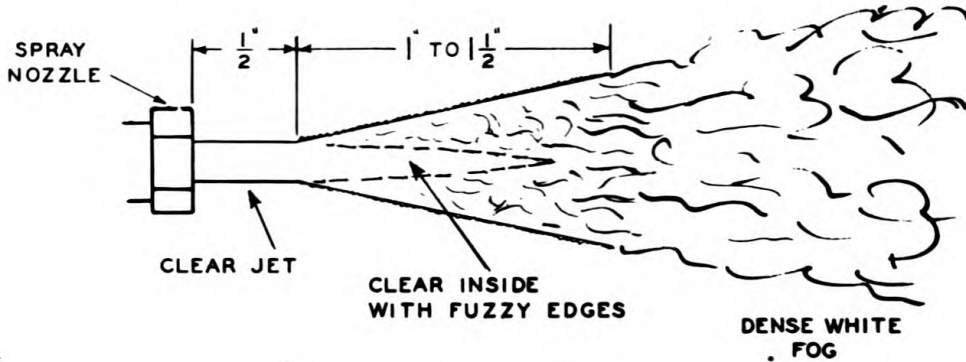

Fig 18. "Good smoke."
f. Preliminary operation. (1) Check of smoke and carburetor. After taking steps described in subparagraphs a, b, and c above, operate generator 10 or 15 minutes to check quality of smoke and carburetor performance.
(2) Smoke. The jet of smoke issuing from each of the four orifices of smoke discharge manifold should resemble the jet of "good smoke" diagrammed in figure 18. Smoke for approximately 1/2 inch from orifice should be transparent. For next 1 or 1-1/2 inches, it should be clear in middle and fuzzy at edges. From there on, it should be dense white fog. "Good smoke" indicates generator is functioning correctly. If wet smoke (smoke having a yellowish tinge) or dry smoke appears, chances are the thermostatic fuel valve (fig 15) needs adjustment. Directions for adjusting valve are given in paragraph 88.
(3) Carburetor. Since factory tests of generator are usually made with gasoline having octane rating other than that issued in field, carburetor may require minor adjustments. Directives for making these are given in paragraph 54.
(4) Speed of engine. Check with a revolution-counter (tachometer). Production of the right amount of smoke depends on engine